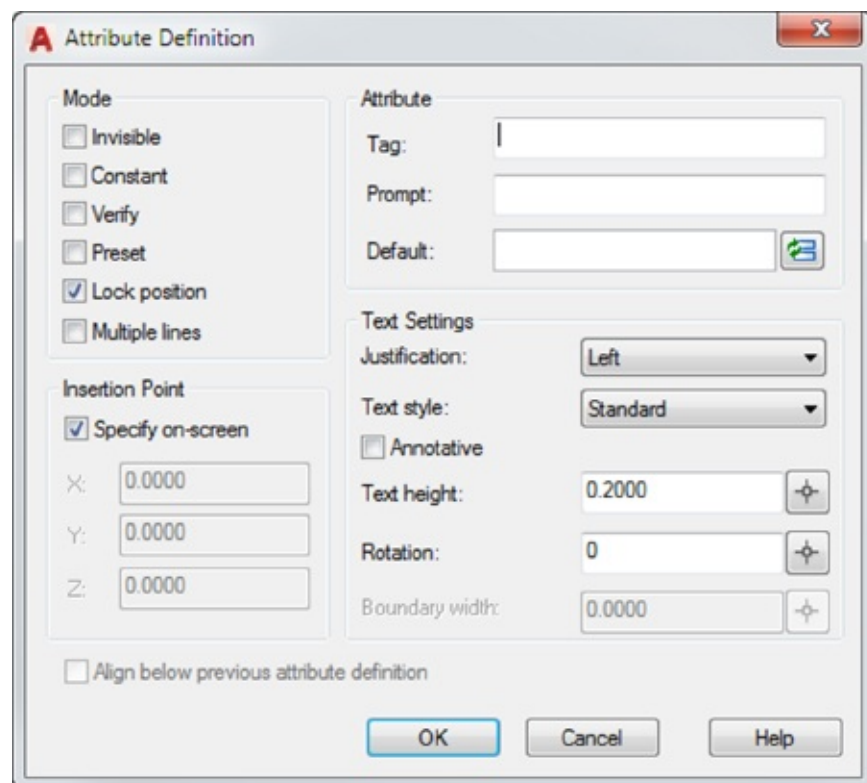

FIGURE 12.3 The Attribute Definition dialog box
4. Click the Define Attributes tool in the Home tab's expanded Block Definition panel, or type **ATT**↵ to open the Attribute Definition dialog box (see Figure 12.3).